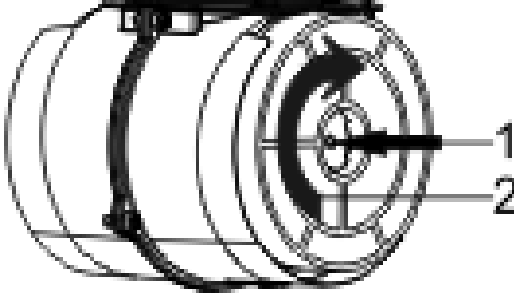

Fig. 6: CARBON FILTER
- 1. Place the carbon filter in its housing. Fig. 6*
- 2. Rotating the carbon filter clockwise, ensure that it is completely fit. Fig. 6*